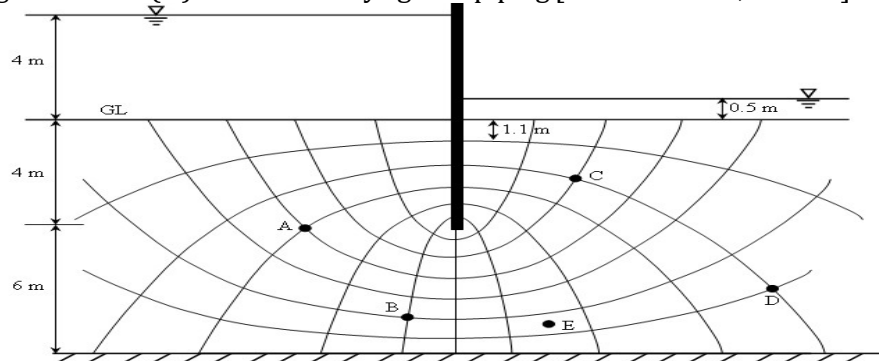

Figure 2
- (c) A single row of sheet piles (Figure 2) is driven up to a depth of 4 m in a bed of clean sand having a co-efficient of permeability of 0.002 cm/sec. An impermeable layer of very stiff clay exists at a depth of 10 m below the GL. The sheet pile wall has to retain water up to 4 m above ground level. The height of water level on the downstream side is 0.5 m. The length of the last element is 1.1 m. Determine (i) Quantity of seepage loss considering unit width of the sheet piles, (ii) Piezometric heads at points A, B, and C, (iii) Exit gradient and (iv) Factor of safety against piping [Given: $G = 2.67$, $e = 0.95$].